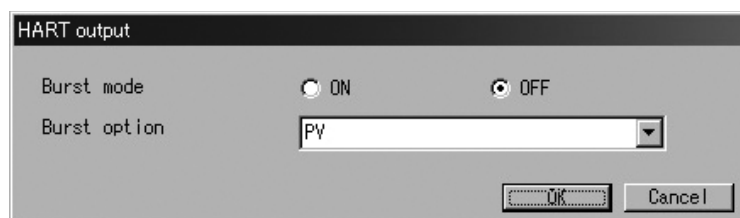

Fig.53
- ① Click on "Setup (S)" at top-level menu of the screen, select "HART output" from "Conf. output" drop-down list, and click on again.
② A message box as shown in Fig. 53 appears. Burst mode is set up at this window.